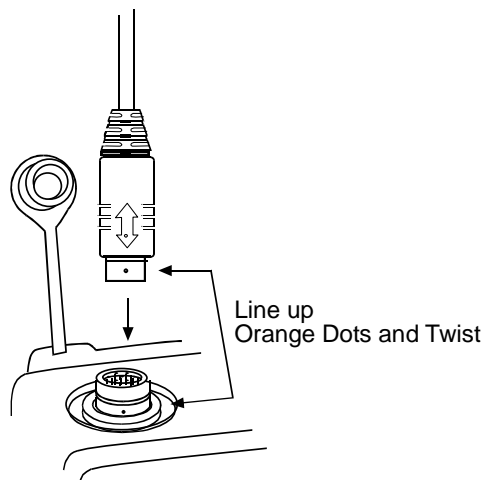

Figure 2: Headset Connection
In order for the U9910-BSW(EU) to be used, a David Clark H9900-series headset must be connected. To connect the headset, align the connectors as shown then push and turn clockwise (see **Figure 2**). There are separate left and right volume controls on the headset.